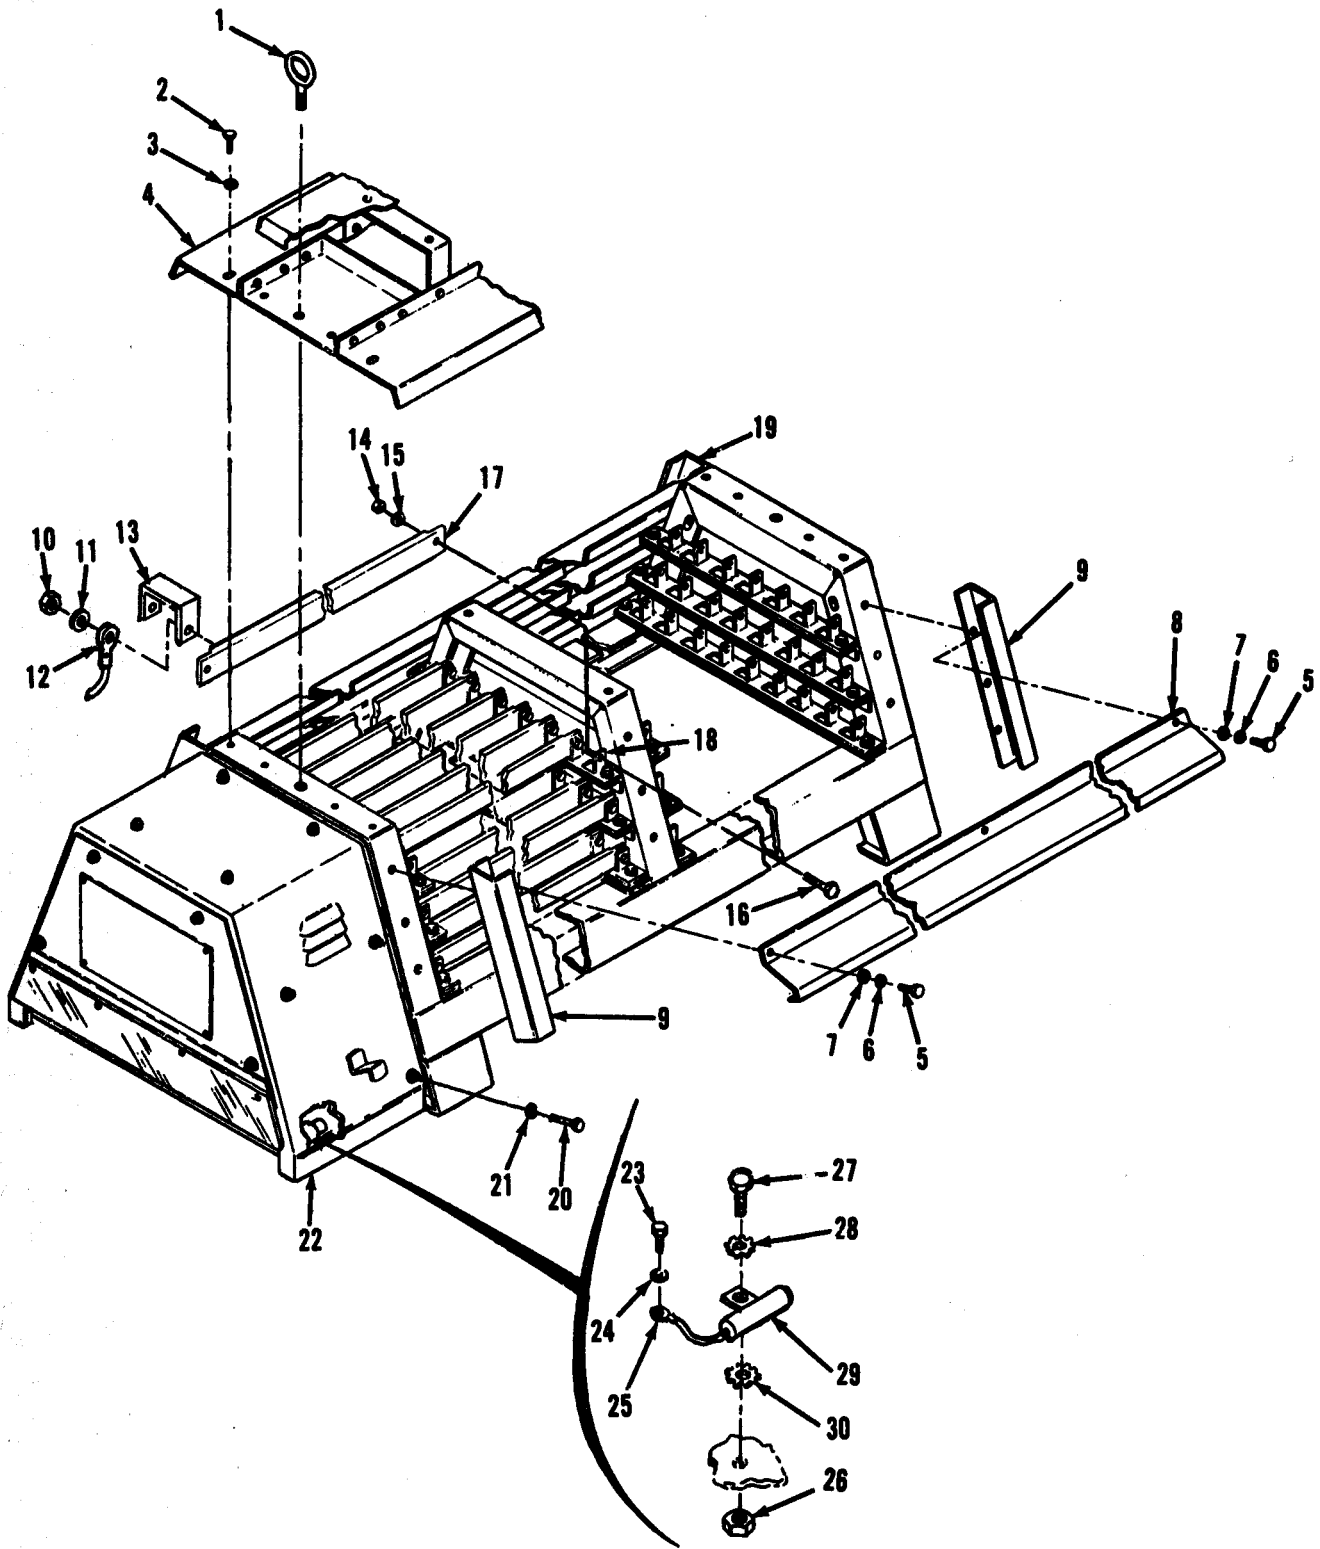

Figure 4-17. Dummy load kit, partially exploded view
a. REMOVAL. Remove heater elements as illustrated in figure 4-17, observing the following:
2. Remove lifting eyes (1), cover assembly (4), side panels (8), and channels (9).
3. Tag and disconnect leads (12) and straps (13) from heater elements (17).
4. Remove heating elements (17) from heater supports (18).
c. INSTALLATION. Install heater elements as illustrated in figure 4-17, observing the following:
1. Install heater elements (17) on heater supports (18) and secure with screws (16), nuts (14), and lock washers
(15). Leave screws (16) at center frame loose to permit expansion and travel of heater elements (17).
a. REMOVAL. Remove radio suppression capacitors as illustrated in figure 4-17, observing the following:
1. Remove cover (22). Tag and disconnect lead (25) from capacitors (29).
2. Remove capacitors (29) from control box.
c. INSTALLATION. Install radio suppression capacitors as illustrated in figure 4-17, observing the following:
1. Connect capacitors (29) to control box with terminal towards load studs.
2. Secure leads to capacitors and install cover (22).
Legend to figure 4-17: